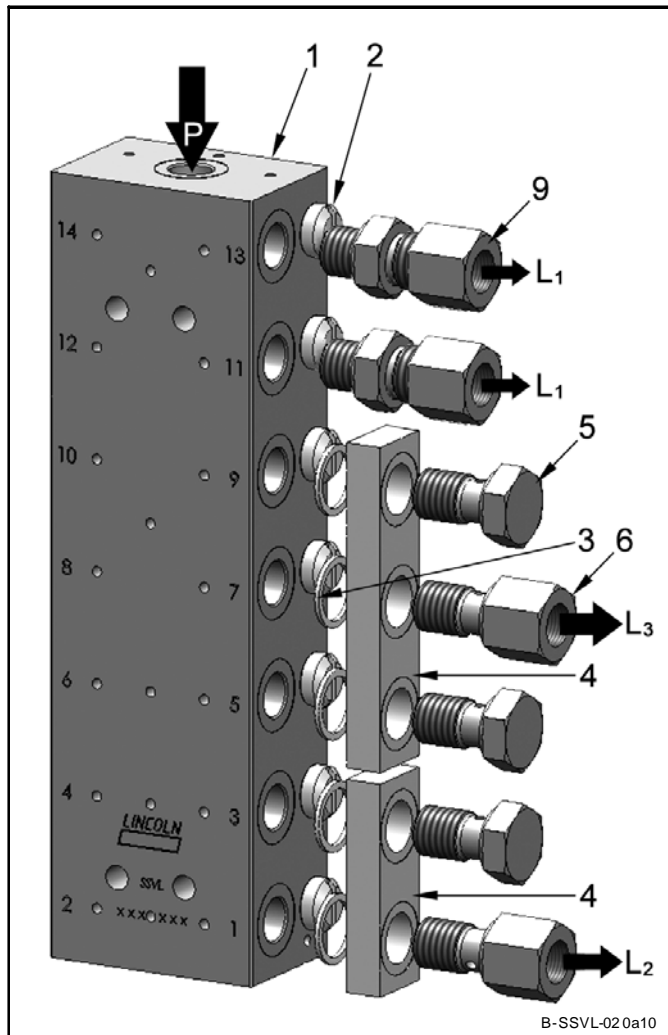

Fig. 1-1 Single parts of the SSVL
- As inlet fitting (on item P, Fig. 1-1) use only tube fittings R1/4" thread.